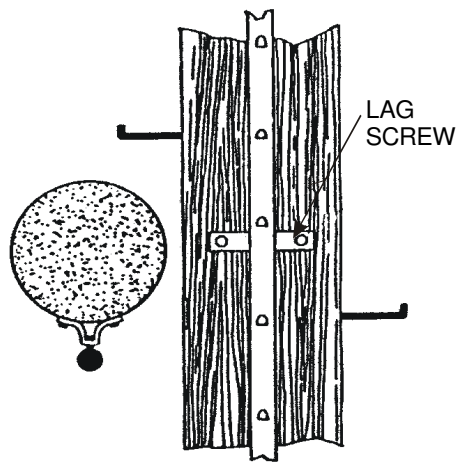

FIGURE 7
o. WOOD POLE BRACKETS are furnished with 3/8 X 4" lag screws to install the carrier rails on wood poles. See figure 7. It is recommended that a bracket be installed at 50" (4 feet 2 inches) intervals or every fifth bolt position with one bracket at the top of each section. The top bracket should be attached at the second bolt position from the top. Install the brackets on the rail, then raise and attach to wood poles using lag bolts.